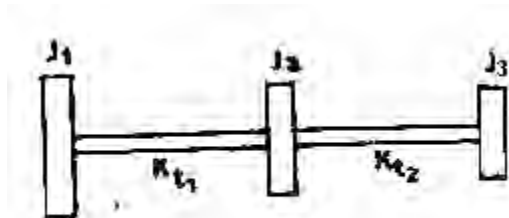

Figure 4:
- A three rotor system shown in figure 4 has the following physical constants: